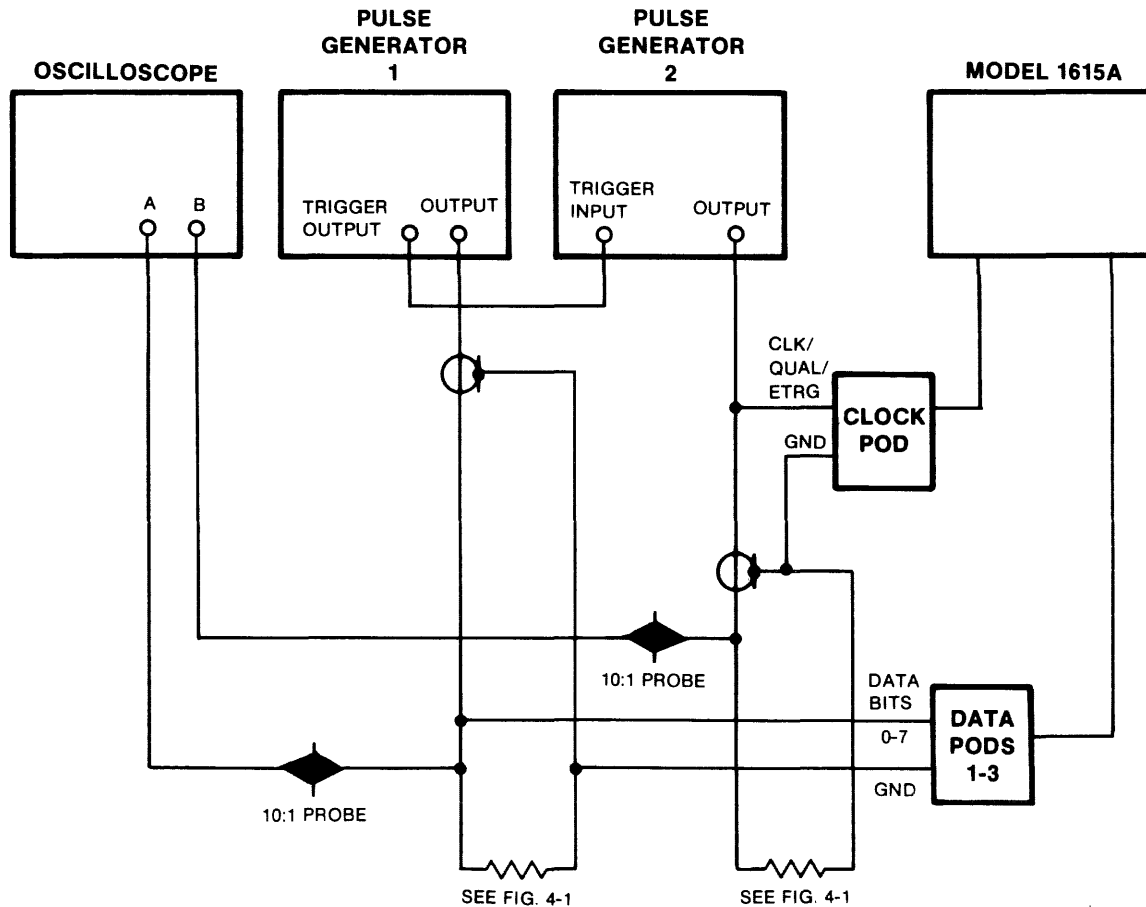

Figure 4-2. Clock, Qualifier, and Data Inputs Test Setup
- a. Connect pulse generators and oscilloscope to 1615A as shown in figure 4-2. Connect all inputs of clock probe and probe pod 1 to their respective signal sources. Connect probe pods 2 and 3 to Model 1615A but do not apply signals to these probe pods.